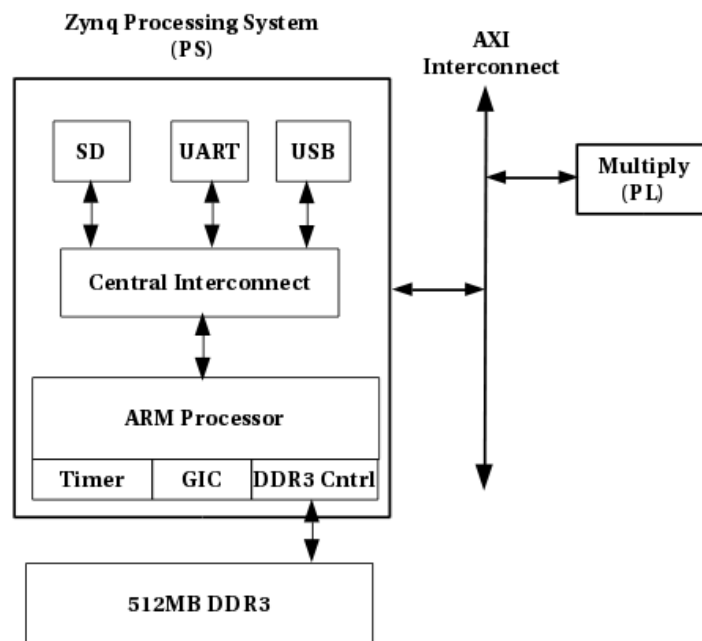
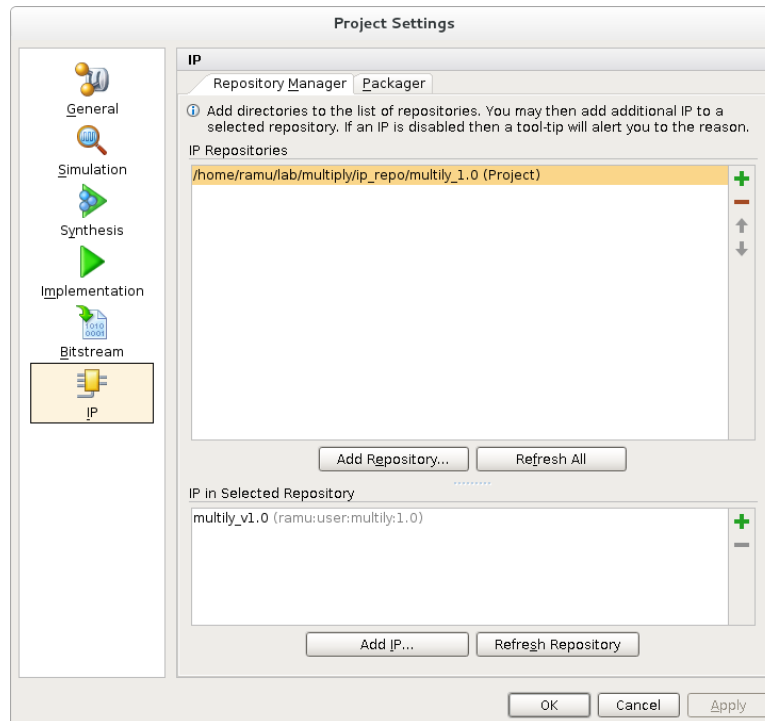

Figure 1: Zynq System Diagram
Figure 2: Add IP repository
The microprocessor system you will build in this lab is depicted in Figure 1. As in last lab, this system has a Zynq processor, an UART Peripheral, and a custom multiplication peripheral. Unlike last lab, however, this system has an SD Card, a timer and a DDR3 (Double Data Rate v3 Synchronous Dynamic Random Access Memory) controller. Additionally, the PS itself has a Memory Management Unit (MMU)
1. To begin, we must create a base PS system which includes all the peripherals shown in Figure 1 .
- (b) Next create block design, add 'ZYNQ7 Processing System' (PS) IP, import 'ZYBO_zynq_def.xml' file' as shown in Lab 3.
- (g) Click on 'Project Settings' under project Manager tab. Click on 'IP' in the project setting window. Click on the green '+' sign and add the 'ip_repo' directory as shown in Figure 2. Click apply to add multiply IP to the current project IP catalog. Now you can add multiply IP to the base system.
- (a) Compared to lab 3, the lab 4 microprocessor system shown in Figure 1 has 512 MB of SDRAM. However, our system still includes a small amount of local memory. What is the function of the local memory? Does this 'local memory' exist on a standard motherboard? If so, where?